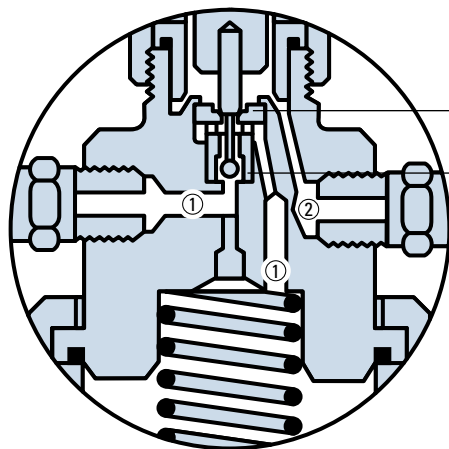

Figure 8
See Figure 8. With the pilot valve de-energized, high side pressure ① is permitted to flow through the lower pilot port at the same time the upper pilot port is closed to suction ②. High side pressure ① built up on top of the piston moves the piston-seat assembly down to evenly split the flow between the two condensers. The piston-seat assembly is held in place by a plate located in the Condenser A connection. This plate is designed to limit restriction through that port. With the upper pilot port closed, there is no high to low side bleed and no resulting capacity loss with the system in the two condenser mode.